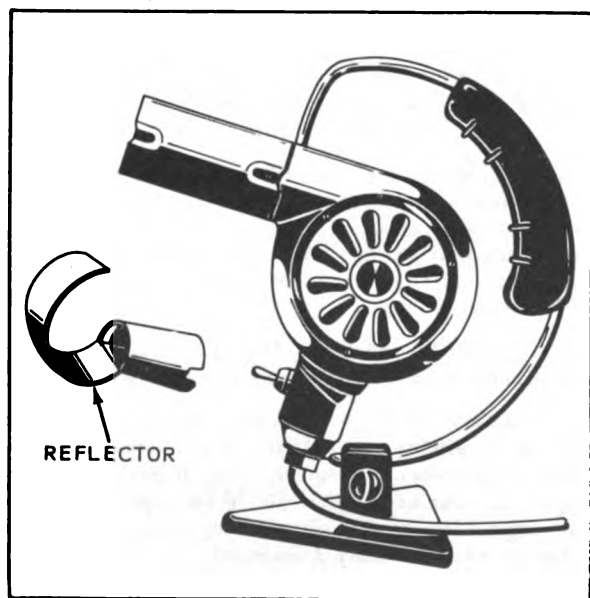

Figure 11-24. Electric Hot-Air Gun
- Use a hot-air gun (see figure 11-24), hair dryer or other suitable method as a heat source. Hold the heat source four to five inches away from the wire, and apply a heat of 275°F to 300°F for approximately 30 seconds. Rotate the wire while applying the heat, so that the heat is evenly distributed.